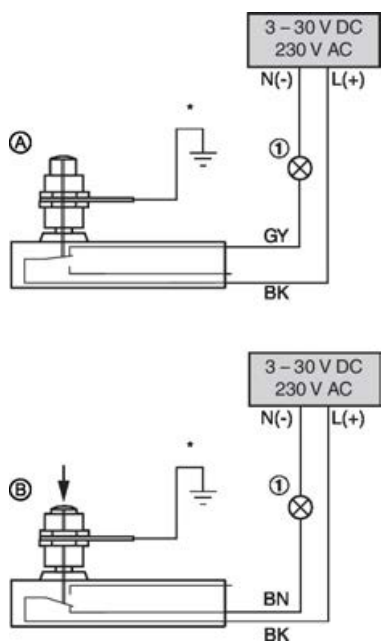

Fig. 12: Wiring example for limit switch
① Indicator light or relay, to be provided by others at 230 V
- The limit switches must be connected according to the wiring example Fig. 12